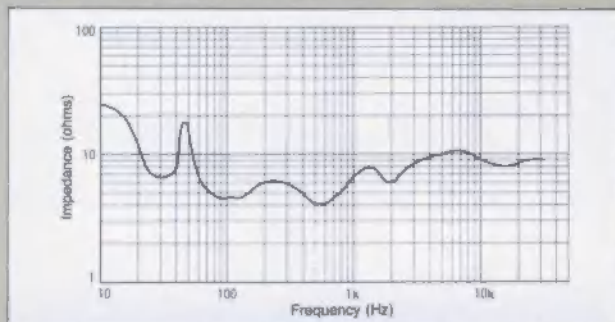

Fig. 1 Impedance curve example (JBL 4345 with rated impedance 8 ohms)
The power supplied into the speaker load is defined as the product of voltage at the output terminals (V) and current (I), expressed as  $W = V \times I$ . The voltage can be measured quite easily with a voltmeter, but it is very difficult to determine the current. For this reason, conventional power meters are based on the assumption that the nominal speaker impedance is the load R, calculating current as  $I = V/R$ . Inserting this into the above equation for power yields  $W = V^2/R$ . However, as is evident from the example shown in Fig. 1, actual speaker impedance is a complex factor that varies considerably with frequency. The peaks and dips in the impedance curve of course cause the current supplied into the load to fluctuate. Measuring only the voltage at the output therefore is not sufficient to obtain true power readings.